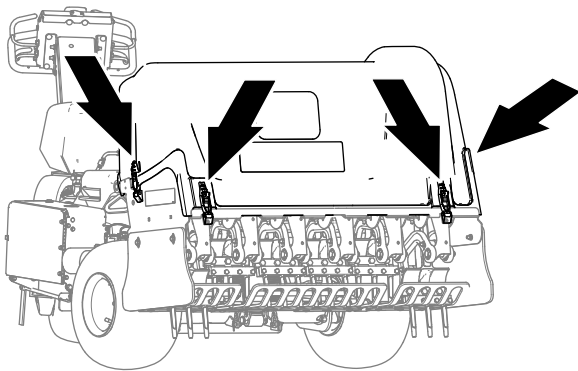
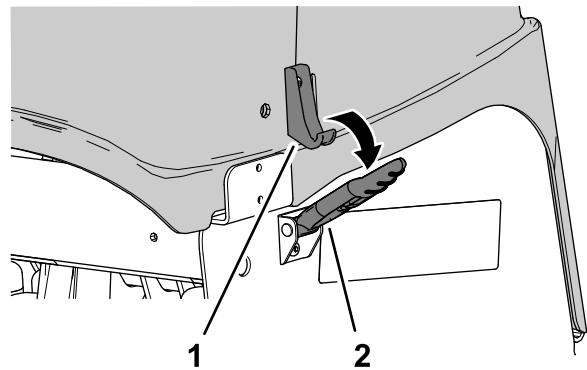

Figure 148
Figure 150
4. Unlatch the coring head cover at the 4 latch location (Figure 148 and Figure 150).